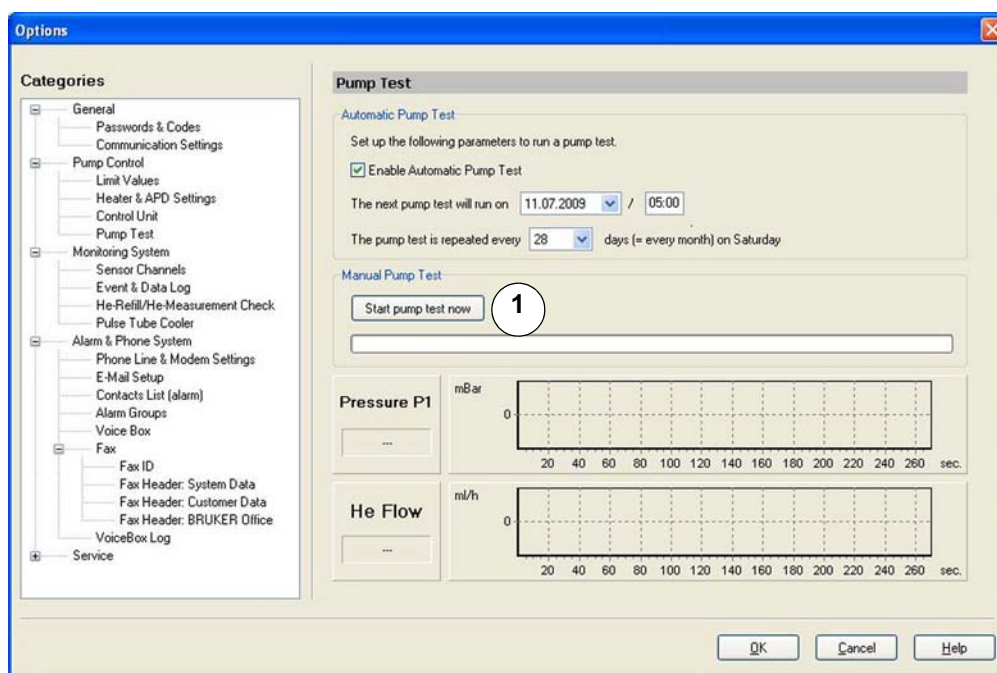

Figure 5.20 Tools - Options - Control Unit - Pump Test
4. Press the „Start pump test now“ button (Figure 5.20 1).